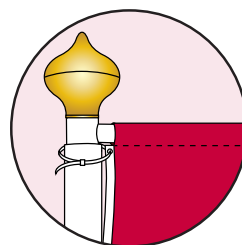

Fig 5a,
- 6, Secure plastic ties through the eyelets and around the pole. DO NOT OVER-TIGHTEN (see fig 5a). At the bottom of the flag attach the D-ring to the metal clip on the weight. (see fig 5b)